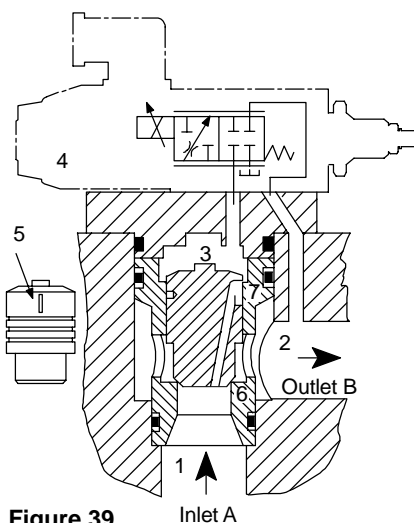

Figure 39
Figures 39 and 40 show the construction of proportional throttles to ISO 7368. In both cases a Vickers type
With the pilot throttle valve closed (Figure 39), the only pilot flow through the closed-off slot in the seated poppet is due to pilot valve leakage. The pressure above the main poppet (3) is equal to the pressure at the valve inlet